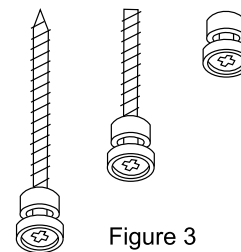

Figure 3
- d. Drill and then Insert screws into the wall and leaving the heads around 2 millimeters out of the wall, adjusting it if Necessary. (Figure 3)